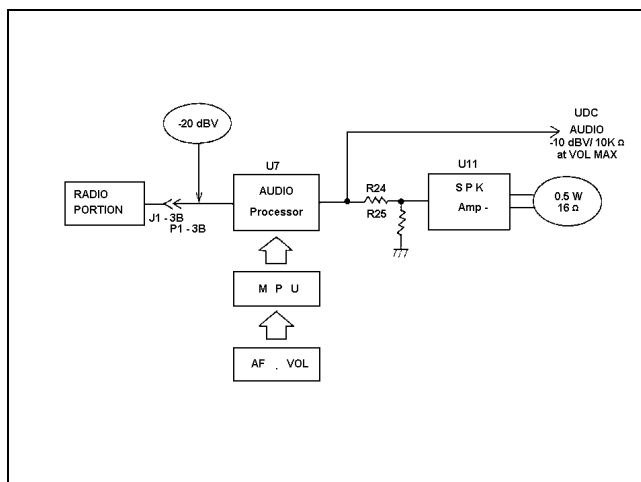

Figure 6 - Receiver Audio Output
- b. Control Board: The receive RF signal comes into P1, Pin 3B. The signal is then applied through a 14dB amplifier, 300-3000Hz BPF, De-emphasis and a 44 dB volume level control. The signal is then amplified by SPK amplifier U11 to drive the speaker. Typical levels needed to obtain a 1 kHz, 0.5 watt receive rated audio output are shown in Figure 6.